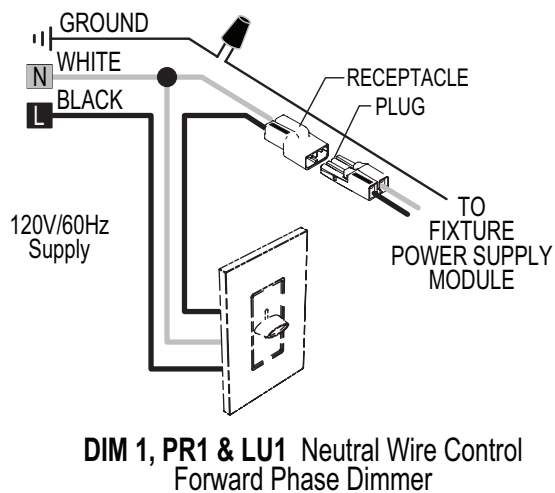

FIG 1.1 Wiring Diagram
1. Verify correct dimming system, lamp module, power supply type, and input supply requirements – FIG 1.1 & 1.2.